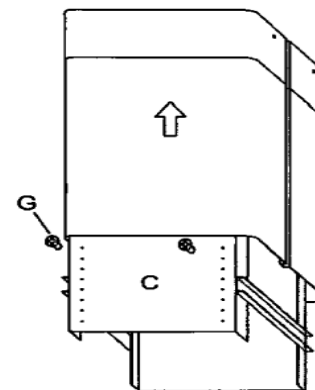

Figure 11
- Take the lower chimney and fix it with 2 unit screws G, drive in hood to avoid it down. (Fig.11).